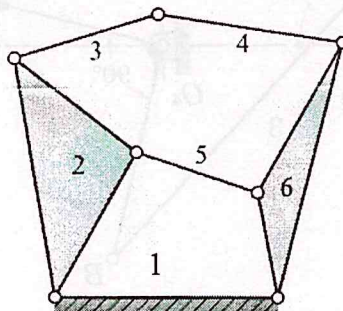

Fig. 1
1. Find the mobility of the planar mechanism shown in Fig. 1